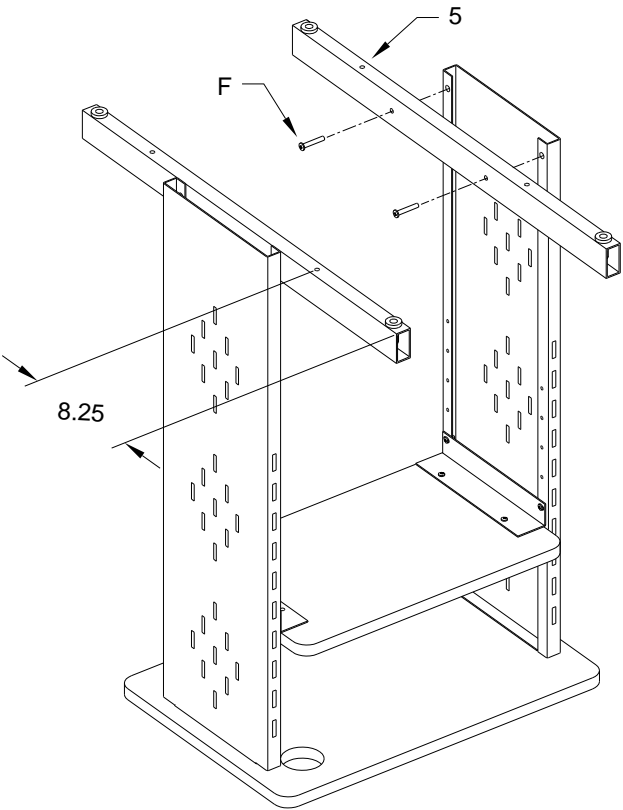

Figure 4
5. Attach the Base Tubes to the Sides. See Figure 4. Note the hole dimension on the Base Tubes. Leave fasteners loose at this time.